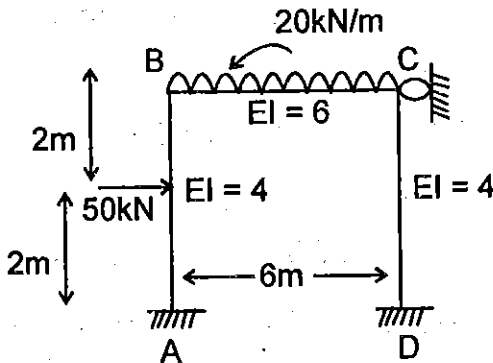

Fig. 2
2. (a) The end moments of the members of the portal frame of Fig. 2 are to be obtained using moment distribution method. The relative values of EI are shown along the members.